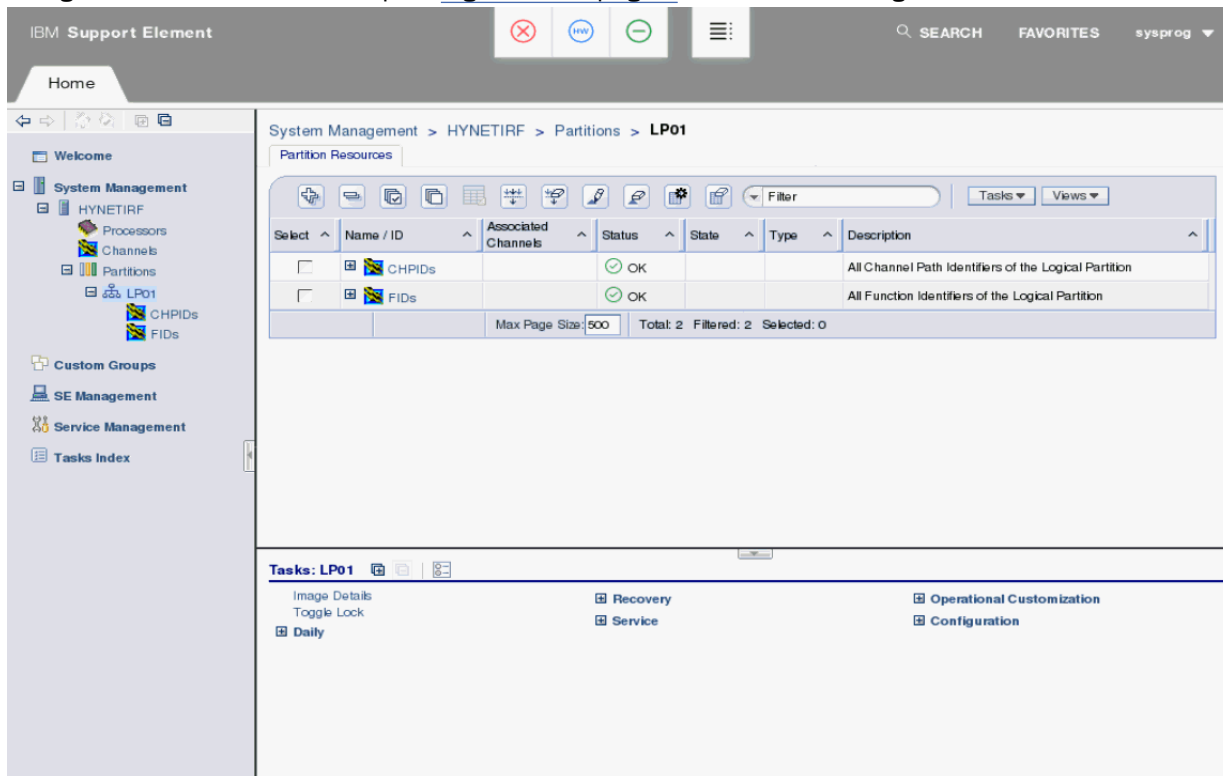

Figure 11. Partition selected and its task categories displayed
1. Expand **Partitions** if this item is not already expanded, and click a partition. This action displays categories of tasks in the tasks pad. Figure 11 on page 8 shows these categories.